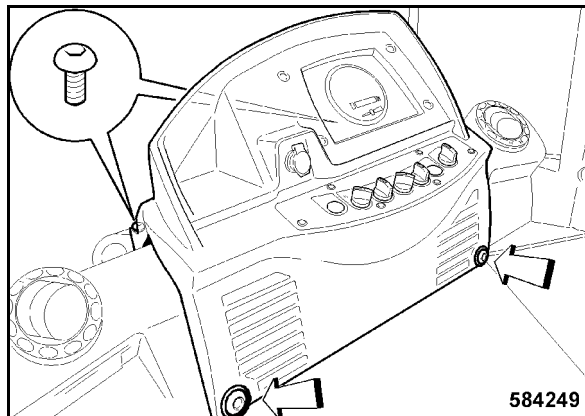

Fig. 222
- Insert the dashboard and fasten it with four fastening screws (Fig. 222).